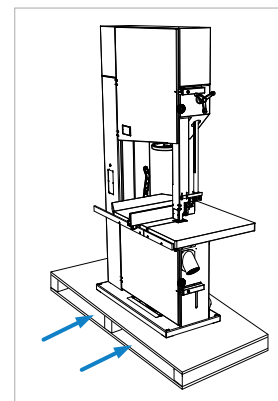

Figure 7: Transport
- Move between the pallet with a lift truck (see ⇒ Figure 7) and lift the machine only a few centimetres and move it to the installation site.